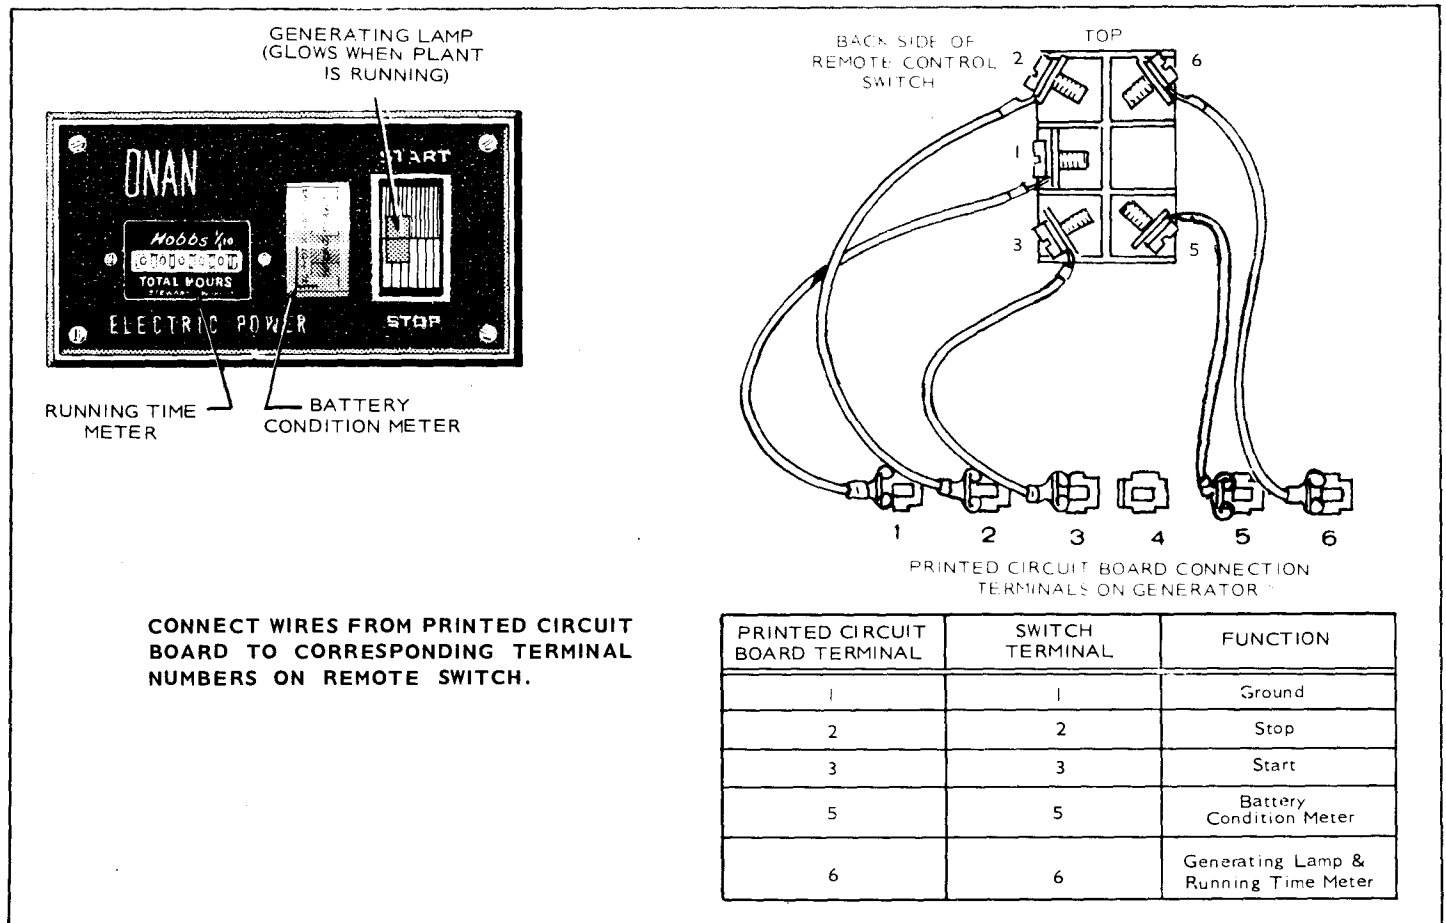

FIGURE 8. DELUXE REMOTE CONTROL (300-0986)
2. Open the electric plant compartment. Connect #18 wire or larger to the printed circuit board on the generator as shown in Figure 8. Thread these leads through the plant compartment to the inside of the motor home. (If necessary, cut a small hole in the compartment for these leads.) Run the lead ends from inside the motor home through the wall cutout.
3. Connect the leads to the remote control terminals as illustrated in Figure 8.